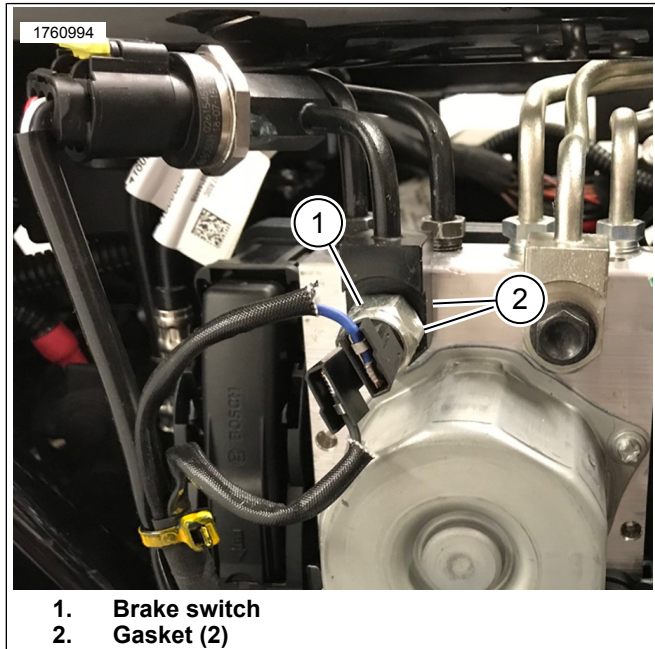

Figure 1. Brake Switch
3. See Figure 1. Install rear brake switch (1) banjo bolt (Part No. 72025-06B).
- a. Install two **new** gaskets (2) (Part No. 41751-06A).